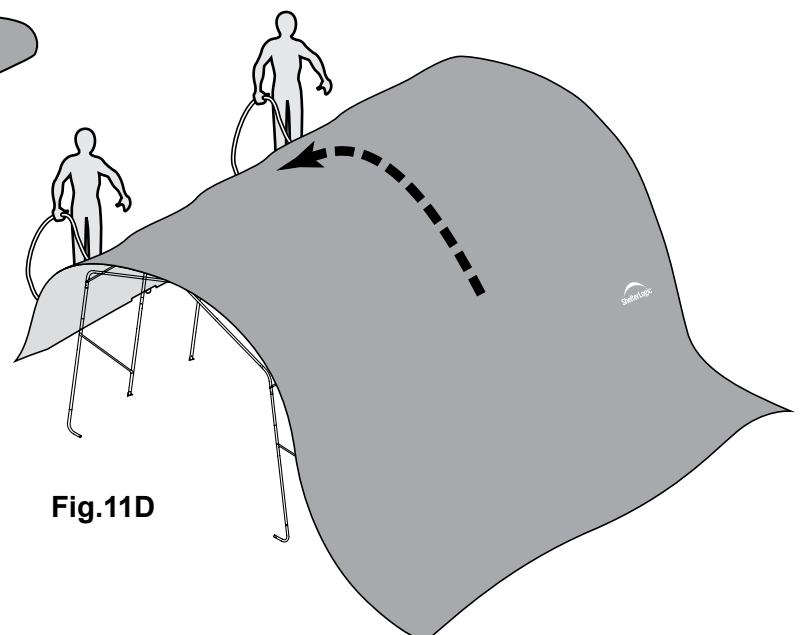

Fig.11D
**D.** Move to the other side of the frame and pull the cover over the frame with the rope. This may require two or more people. Fig. 11D.